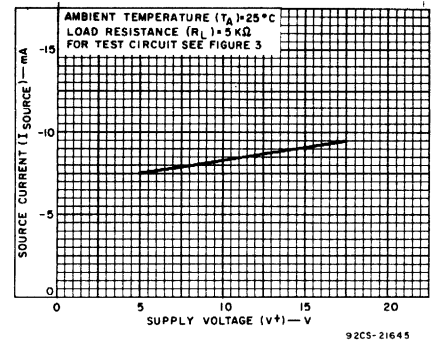

Fig.11 – Source current vs. supply voltage.
- High voltage gain (see Fig. 11) up to 53 dB (typ.) per COS/MOS stage